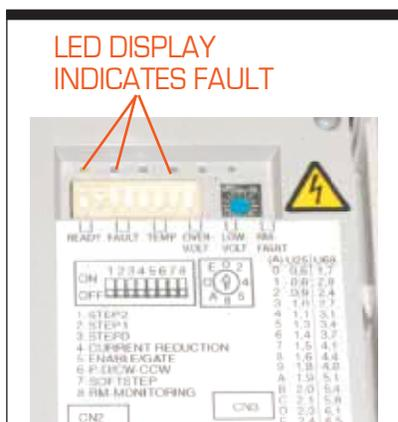

Figure 5-1. Stepper Drive Motor Fault Display
Stepper driver errors can be: over-temperatures (of motor or power amplifier), short circuit (between two motor phases or between motor phase against PE), over-voltage, low-voltage, rotation monitoring (RM) fault, power amplifier deactivation, or motor current free. Refer to the LED status display of the stepper motor drive inside the electrical cabinet (see Figure 5-1).